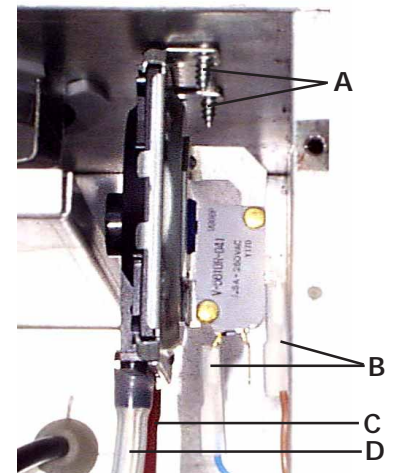

Fig. 28
7.06 Air pressure switch (fig. 28)